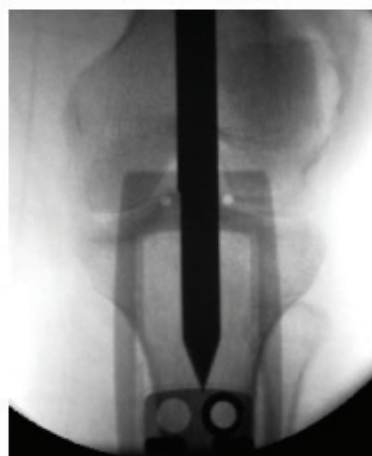

Figure 38
3. Adjust the cartridge proximally or distally within the Blocking Screw Device to determine the blocking screw position (Figure 38).